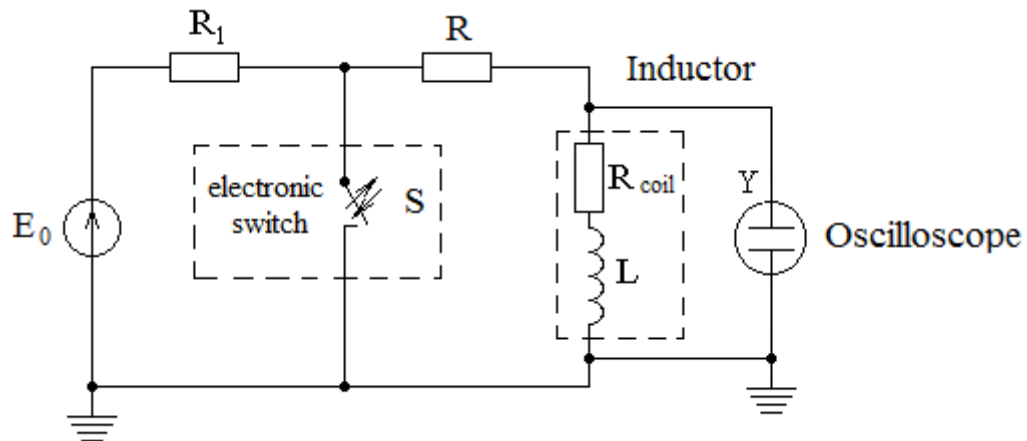

Figure 2.1 – Scheme for research of transient in  $RL$ -circuit
2) Write down the commutation laws and determine the independent initial condition for the  $RL$ -circuit after closing the electronic switch (S) (figure 2.1).
3) What modes are called transitional, steady state and free? Write down the steady state, free and transient components of current and steady state, free and transient components of voltage on the inductor after switching (S closes) when the  $RL$ -circuit is shorted (figure 2.1).
2.2.1 Assemble the electric circuit in figure 2.1.